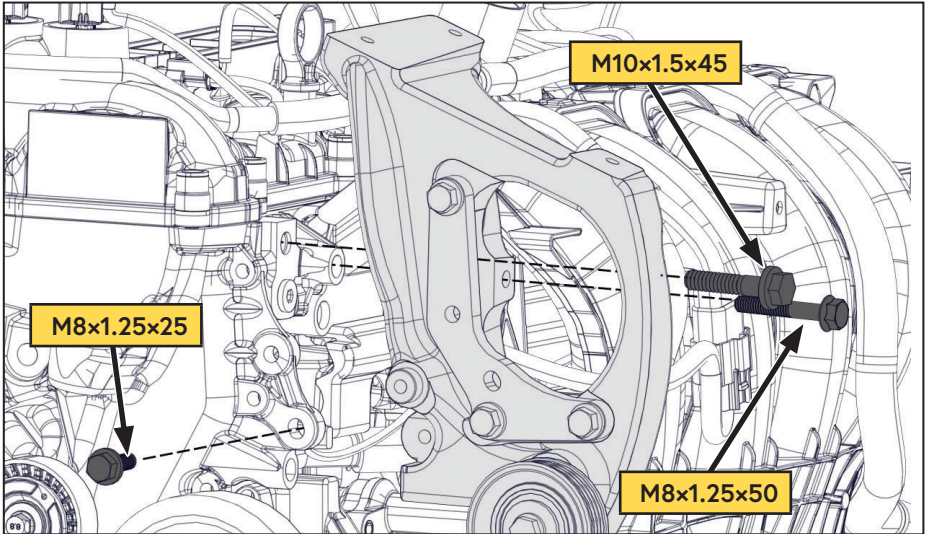

Figure 9 — Install main bracket
- Install the main bracket, leaving the fasteners finger tight (Figure 9).
- Once the fasteners are installed and the bracket fits snug, torque the (x3) fasteners to specification (Figure 9).